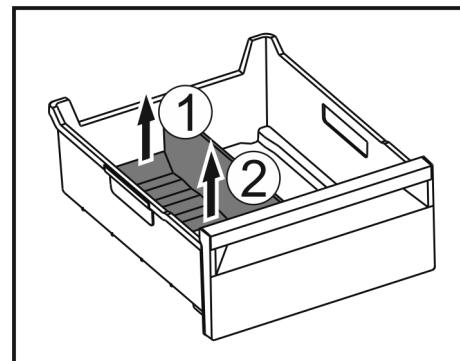

Fig. 116
- ▶ Lift the rear part of the ice compartment divider. *Fig. 116 (1)*
- ▶ Remove the ice compartment divider upwards. *Fig. 116 (2)*